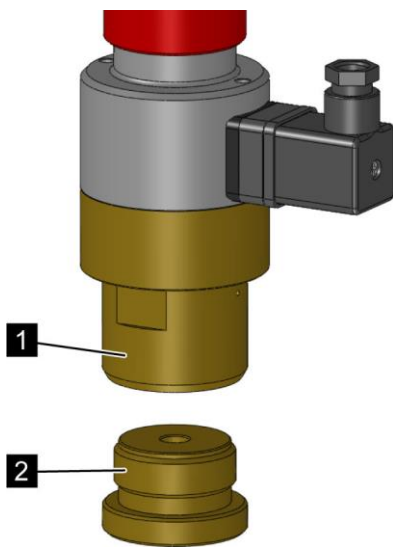

Fig. 86: Resetting the release pin
7. ➤ Screw the screw reset tool (Fig. 86/2) onto the electrical release device (Fig. 86/1) by hand until the stop.